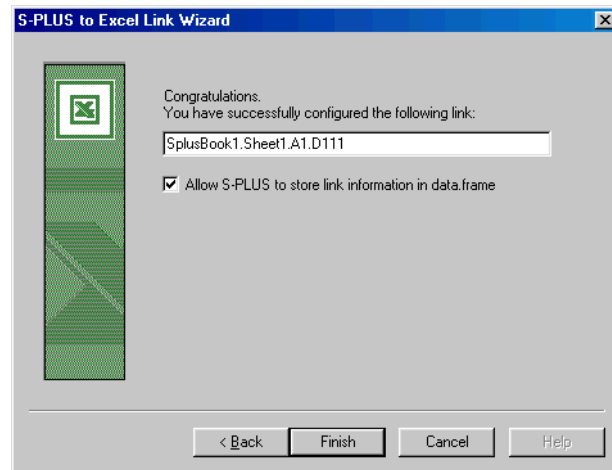

Figure 10.9: *The final page of the wizard.*
6. Figure 10.9 shows the last page of the wizard. S-PLUS automatically generates a default name of the form **SplusBook1.Sheet1.A1.D111** for the link. If you prefer, you can type a different name for the new link in the text box.